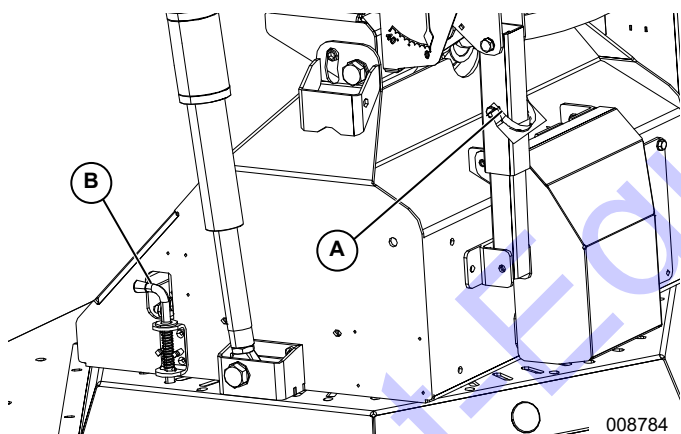

Figure 2-10. Transport Locks
2. See **Figure 2-10**. Verify input switch (B) is in the OFF position.
3. Verify emergency stop button (C) is in the out armed position. If the emergency stop button is engaged, twist the emergency stop button clockwise to release.
See **Figure 2-10**. Transport locks (A) (B) must be disengaged prior to operation
3. See **Figure 2-10**. Align holes in actuator supports (A).
4. Insert transport locking pin through holes (A) and secure with cotter pin.
6. Insert transport lock (B) into hole in base.